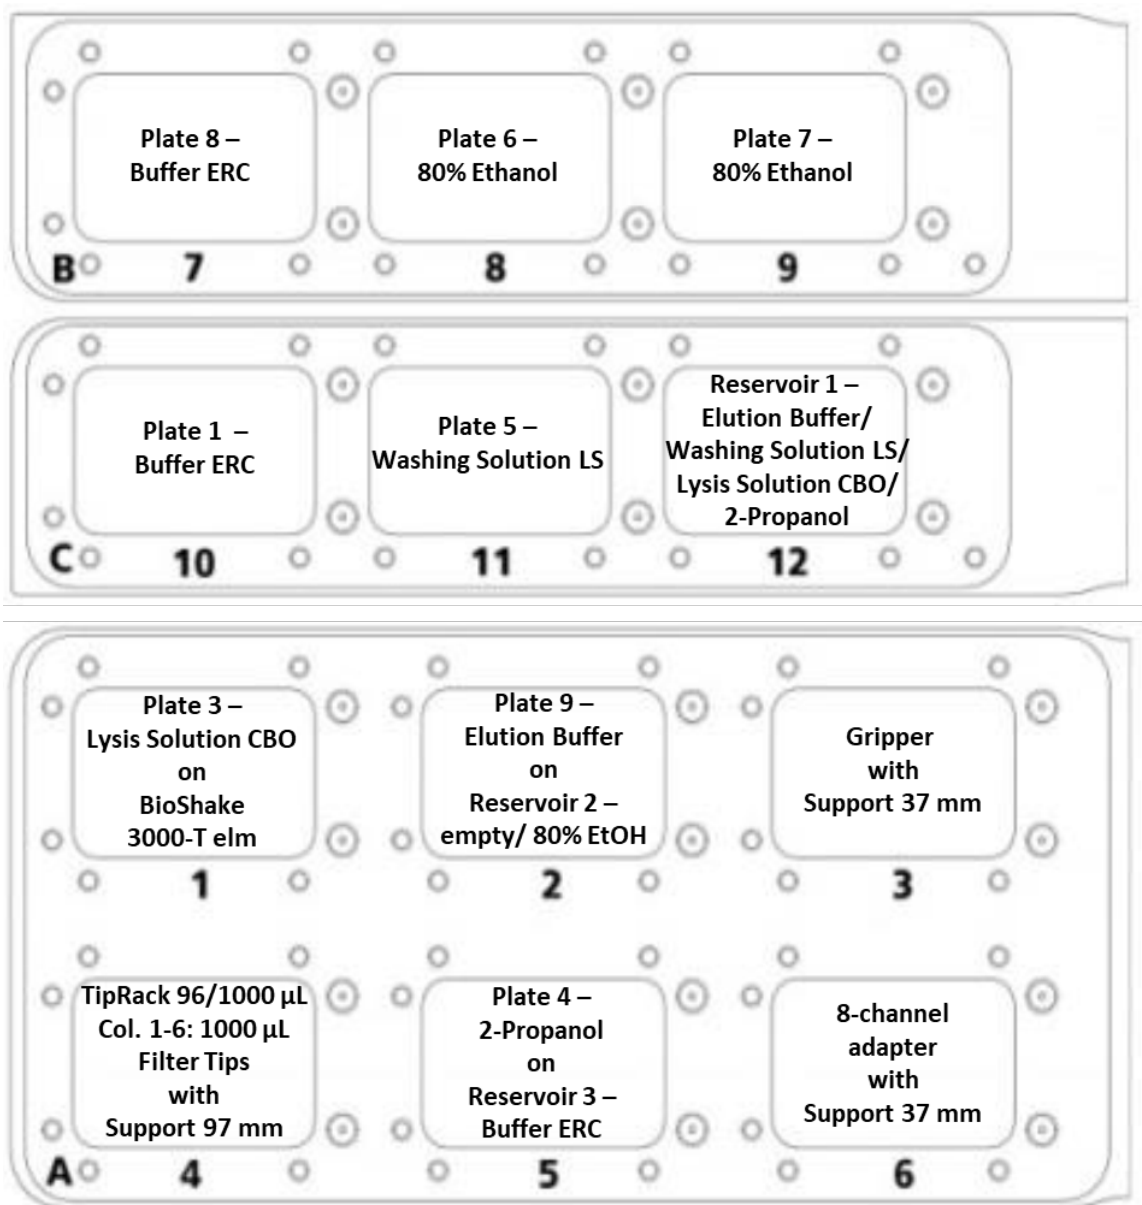

Figure 3: Deck Layout for the prefilling protocol for up to 500 µL sample volume.
6. Transfer 40 mL **2-Propanol** into column 4 of the reservoir labeled "Reservoir 1 – Elution Buffer/ Washing Solution LS/ Lysis Solution CBO/ 2-Propanol". Place the filled reservoir into the CyBio FeliX on position 12 (\rightarrow see **Figure 3**).
7. Transfer 120 mL **80 % Ethanol** into the **right** side of the 2 column reservoir labeled "Reservoir 2 – 80% Ethanol". Place the filled reservoir into the CyBio FeliX on position 2 (\rightarrow see **Figure 3**).
8. Transfer the content of two bottles (2 x 110 mL) **Buffer ERC** into the reservoir labeled "Reservoir 3 – Buffer ERC". Place the filled reservoir into the CyBio FeliX on position 5 (\rightarrow see **Figure 3**).
10. Place the CyBio Tip Rack 96/1000 μ L into the CyBio FeliX on position 4 (\rightarrow see **Figure 3**).
11. Place the 8-channel adapter (Head R 96) with the support 37 mm into the CyBio FeliX on position 6 (\rightarrow see **Figure 3**).
12. Place the empty, labeled plates on the CyBio FeliX deck according to the deck layout for up to 500 μ L sample volume (\rightarrow see **Figure 3**).